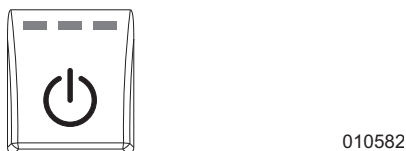

Figure 3-27. Engine START-STOP Button
4. See Figure 3-27. Press the engine START-STOP button once.